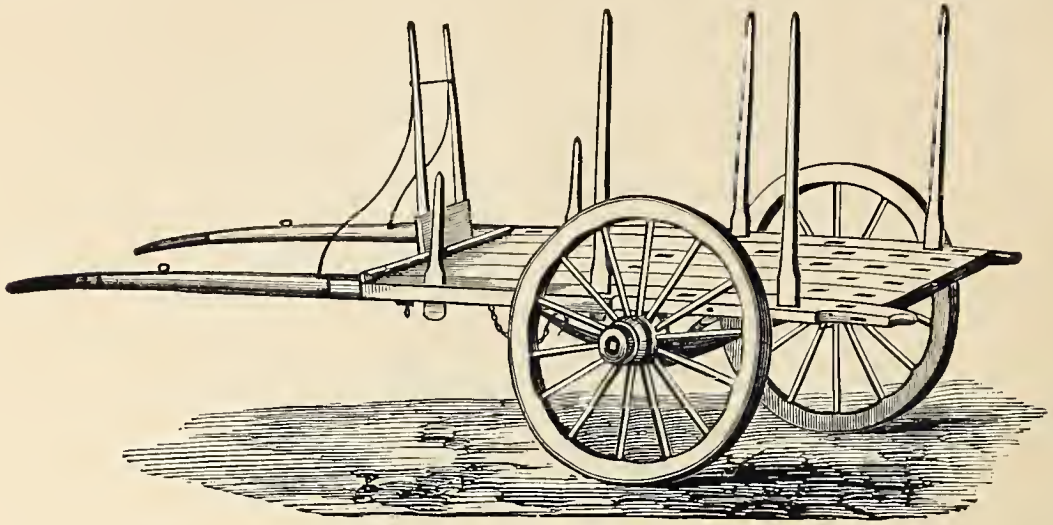

Fig. 556.—Dray or City Cart.
*The Dray or City Cart.*—This is illustrated at *Fig. 556*, and can be made in various sizes: for one, two, and three horses or mules abreast, or a string team. It is intended for street use, in transporting merchandise, and the mortised holes, into which the stakes fit, adapt it for carrying securely large or small loads.